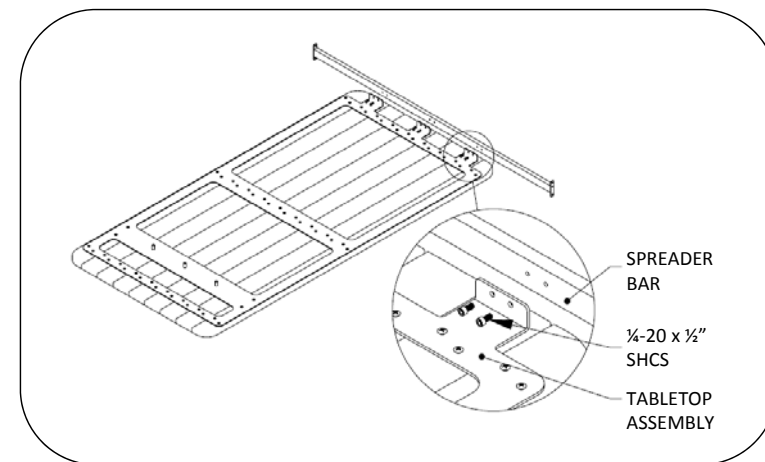

Fig. 1 – attach spreader bar to tabletop
1. Attach spreader bar to tabletop using (6) 1/4-20 x 1/2" socket head cap screws, see Fig. 1.